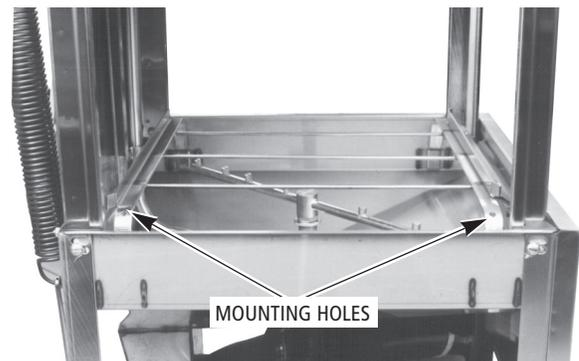

Figure 3
3. With the two screws and nuts removed in step 2, reattach the front rack track and splash guard to the left side of the rack track assembly, using the mounting holes (*Figure 3*) provided.